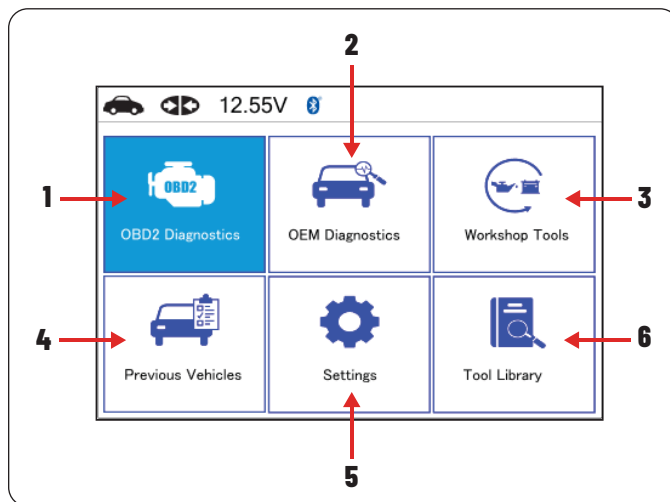

Figure 3. Home Screen
See **Figure 3** for the explanation of items 1 through 6, below: